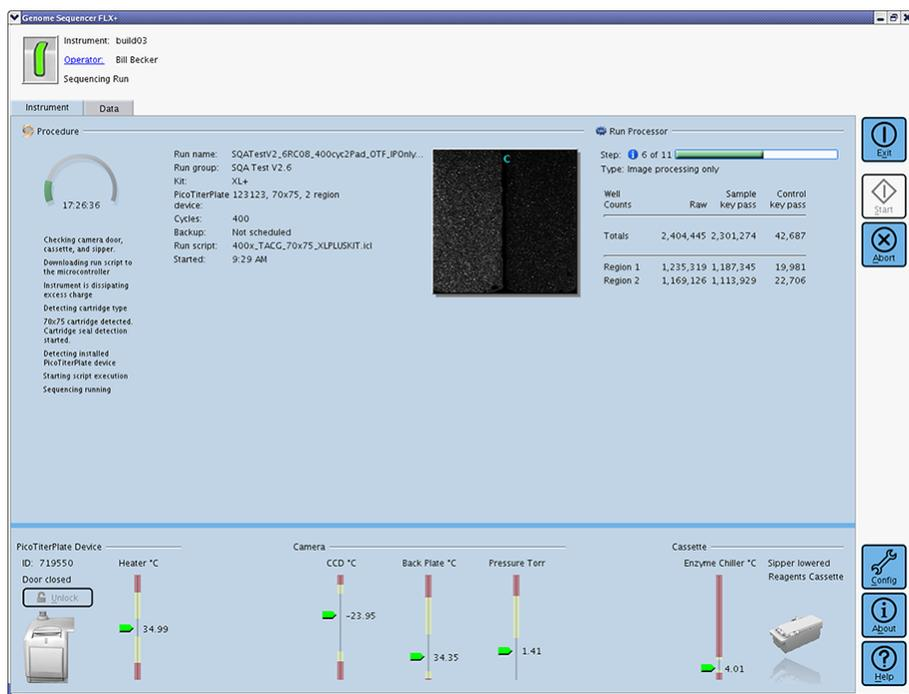

Figure 32: The Instrument tab of the GS Sequencer application main window during a sequencing Run
- The Operator can monitor the progress of a sequencing Run by viewing the Instrument status and the data images as they are being captured by the camera: Thumbnail images will appear under the progress bar in the Instrument tab during the Run (Figure 32).
- There is an *Abort* button available in the Global Action area of the GS Sequencer main window (Figure 32), which can be clicked if a problem occurs during the Run. The Abort Run dialog box will ask you to verify that you want to stop the Run; if you confirm, the Run will be immediately terminated. There is no procedure for pausing and resuming a Run. If a Run is aborted, follow the abort with a Pre-wash before proceeding with another sequencing Run.